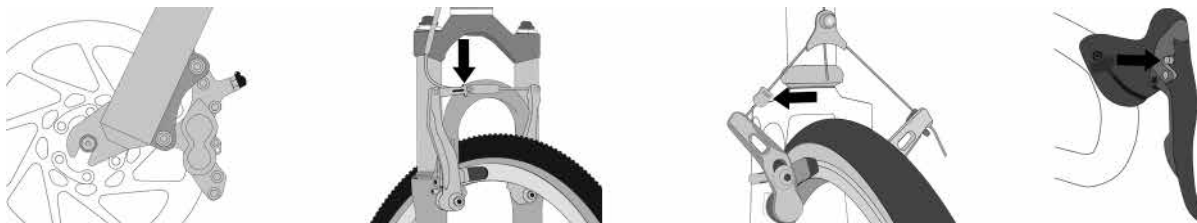

fig. 20, fig. 21, fig. 22, fig. 23
3. Some bicycle brakes, such as disc brakes (fig. 20) and linear-pull brakes (fig. 21), are extremely powerful. Take extra care in becoming familiar with these brakes and exercise particular care when using them.